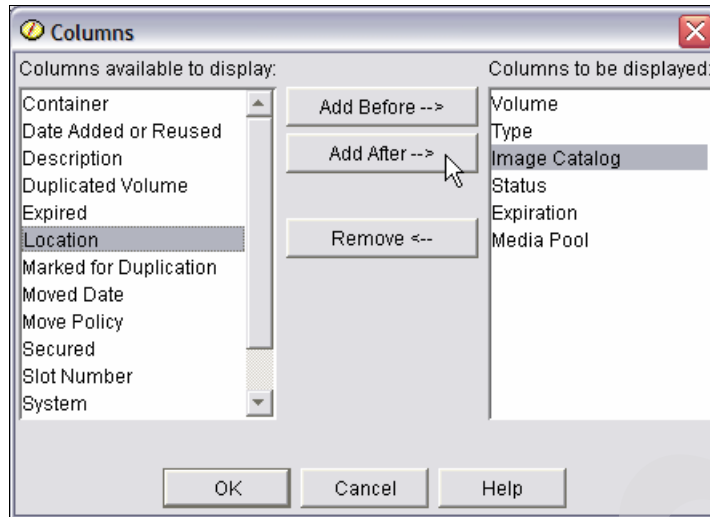

Figure 6-29 Columns - Adding/Removing/Arranging
2. You can then look at the various column fields already being shown (Figure 6-29). You can remove them, add new columns, and even reorder the columns of information.